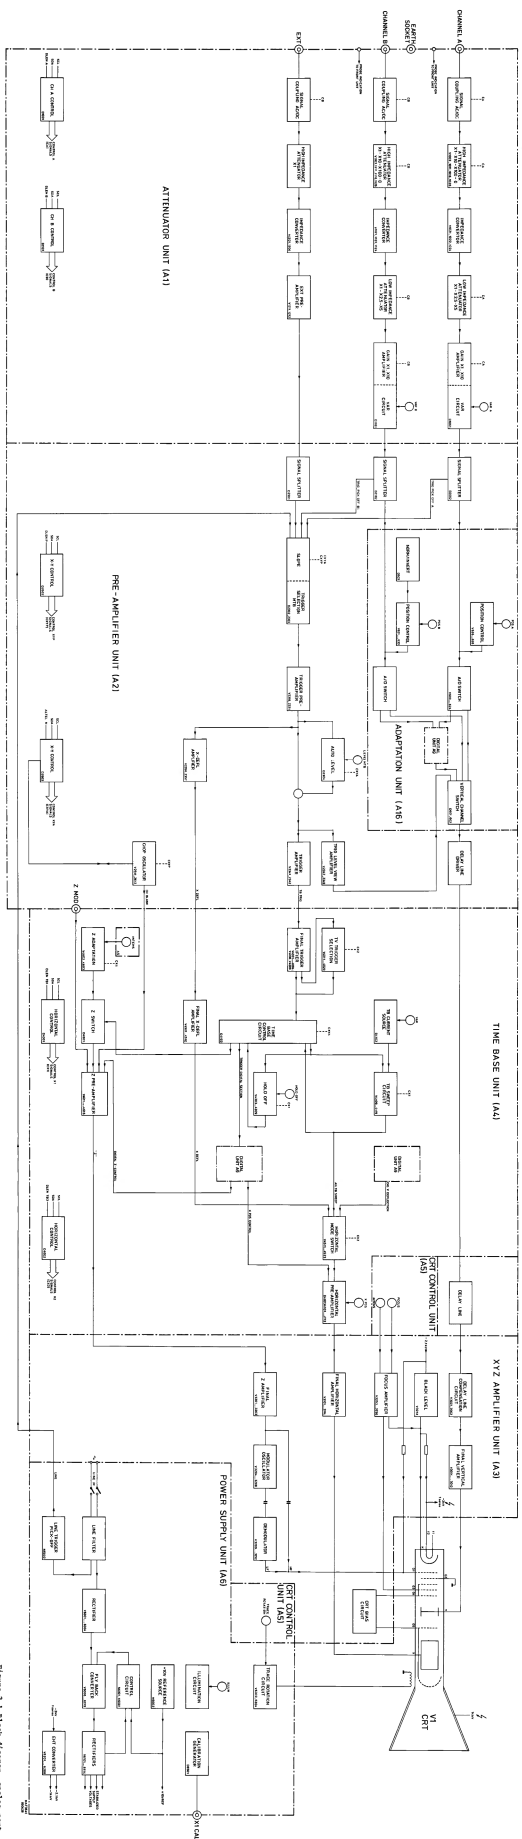

Figure 3.1 Block diagram, main part
3.2 BLOCK DIAGRAM DESCRIPTION (see figure 3.1 and 3.2)